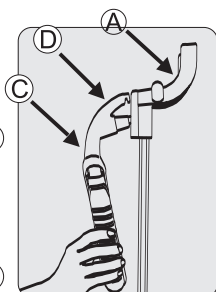

Figure 9
- 2.Insert the hook(D) of the folding rack(C) into the hole of hanger(A) about tilting 40°. (Figure 9)